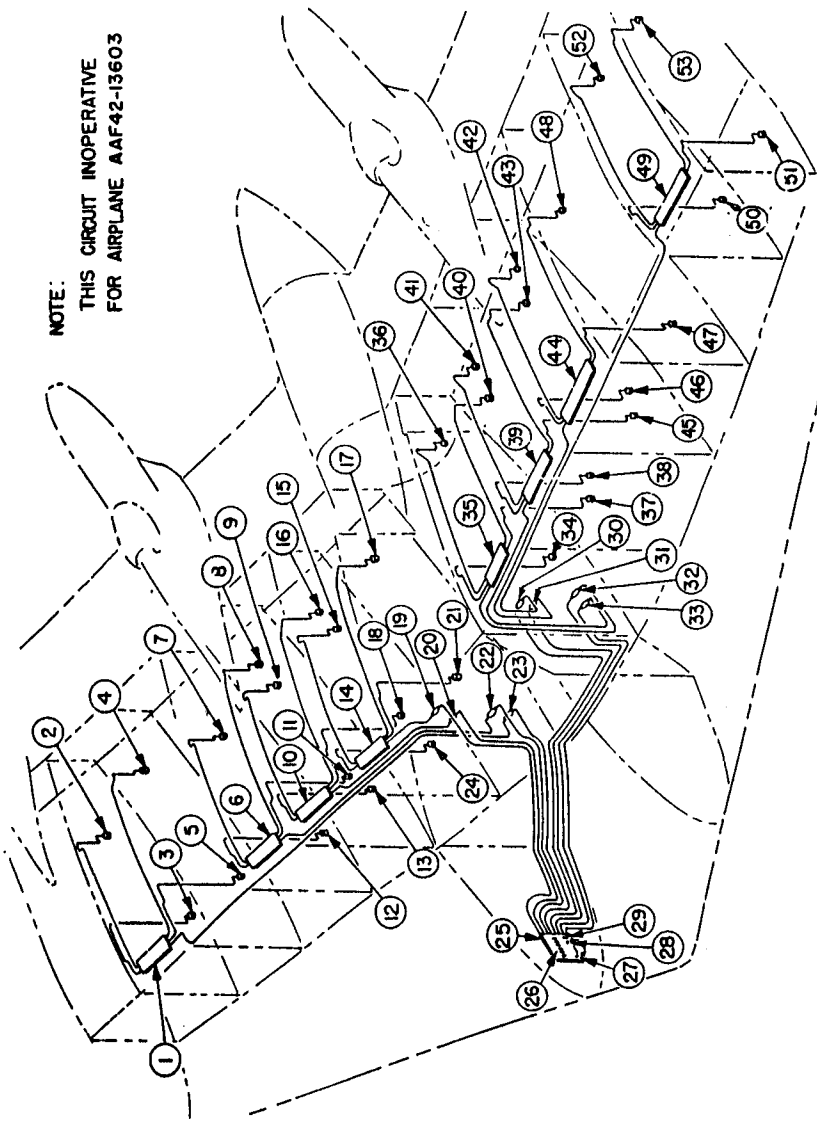

Figure 4. Bomb Arming and Nose Fuse Control Circuit
c. NOSE FUSE ARMING CIRCUIT. (See figure 4.)- Although the nose fuse arming cockpit controls and wiring are installed, this circuit is inoperative.